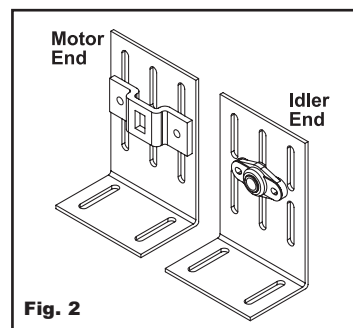

Fig. 2
- Compress shaft of the idler with your thumb and position in front of the idler shaft hole on the idler bracket. Release the shaft so it is in the hole of the bracket. **(See Fig. 2)**
3. Take entire motorized roller tube up to the opening and insert motor end into the motor bracket. Compress the shaft on the idler with your thumb and move unit over hole on the idler bracket and release shaft to fit into the bracket. **(See Fig. 2)**
- Take the assembled unit (tube and brackets) and install the idler end up into idler bracket. **(See Fig. 2)**
- Attach motor bracket end into the blocking. **(See Fig. 2)**